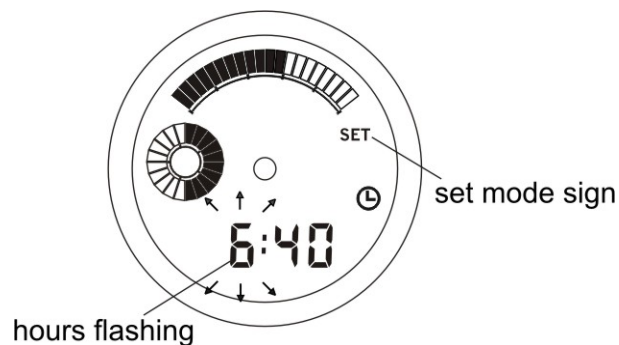

Fig. 3.8
3.2.8.2 To set the alarm clock ON time and current time enter the time indication as described in clause 3.2.2. Then the long pressing of button 2 (SELECT) switches on the *setting the alarm clock ON time*. After this the display will show the flashing hours of the alarm clock setting and the set mode sign - SET (Fig. 3.8).